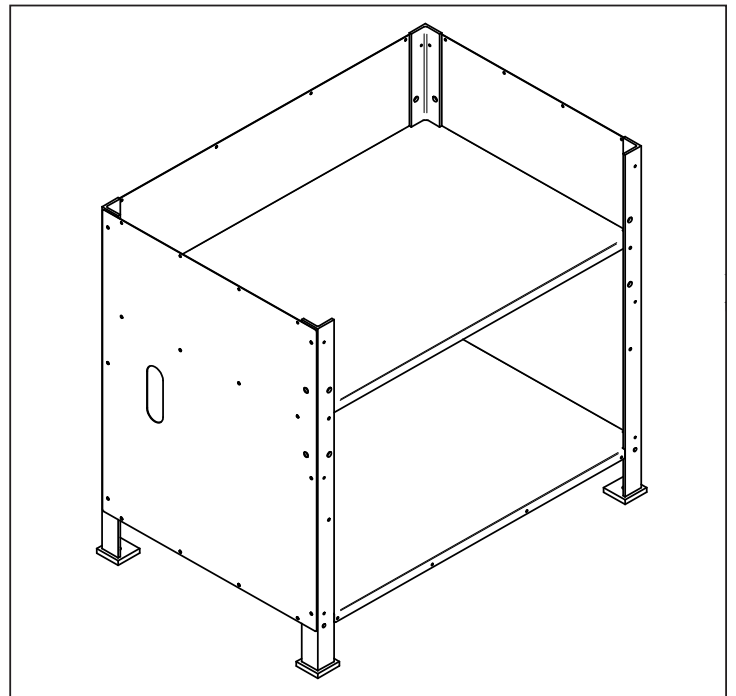

Figure 4
- Using 12 10-32 x 3/8" Phillips Screws, attach Middle Shelf (see **Figure 4**).